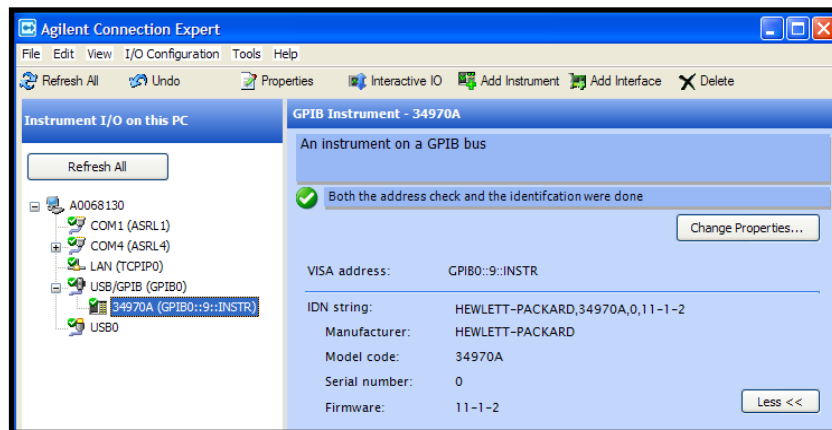
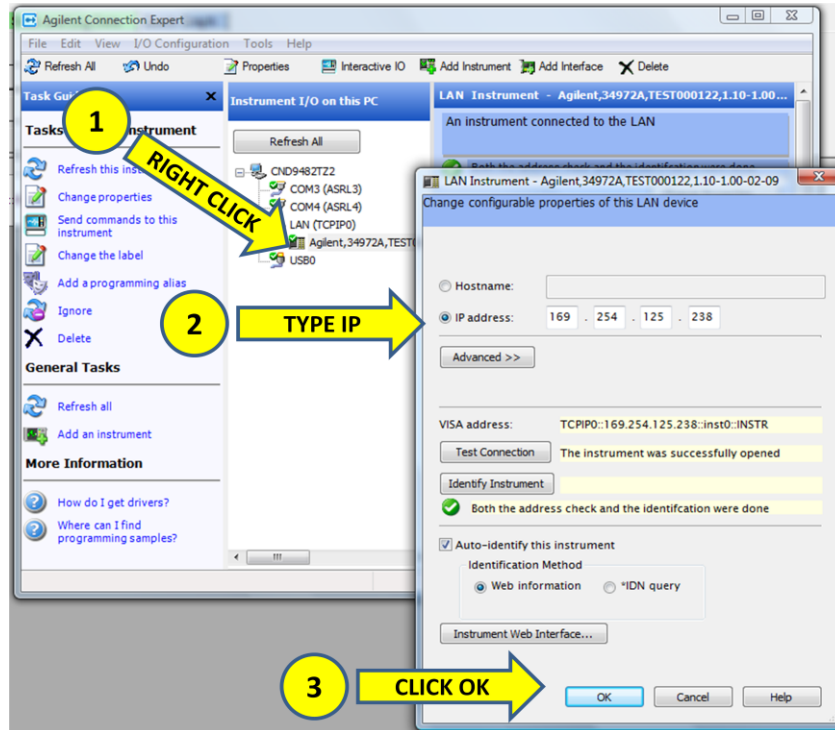

Figure D3– ACE correctly displaying a instrument (USB/GPIB in this case)
Figure D4– In some cases it may be necessary to directly type in the IP address
- 9) Instrument should appear with green checkbox ☒ as shown in figure D3. If the green checkbox is not present and instead a red box ☐, there is a communications problem. You must stop and determine the cause of the problem before you continue. Consider manually typing in the IP address as shown in figure D4.